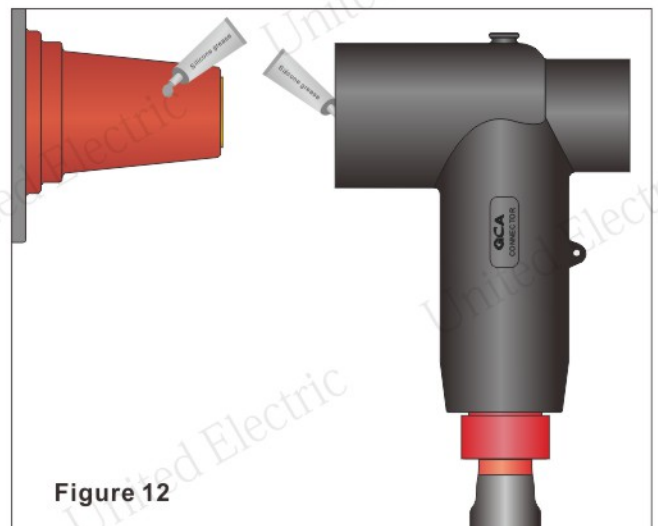

Figure 12
- Coat evenly a thin layer of silicone grease onto the connected bushing, and the inner surface of the front end of CJBF30-1250. (Figure 12)